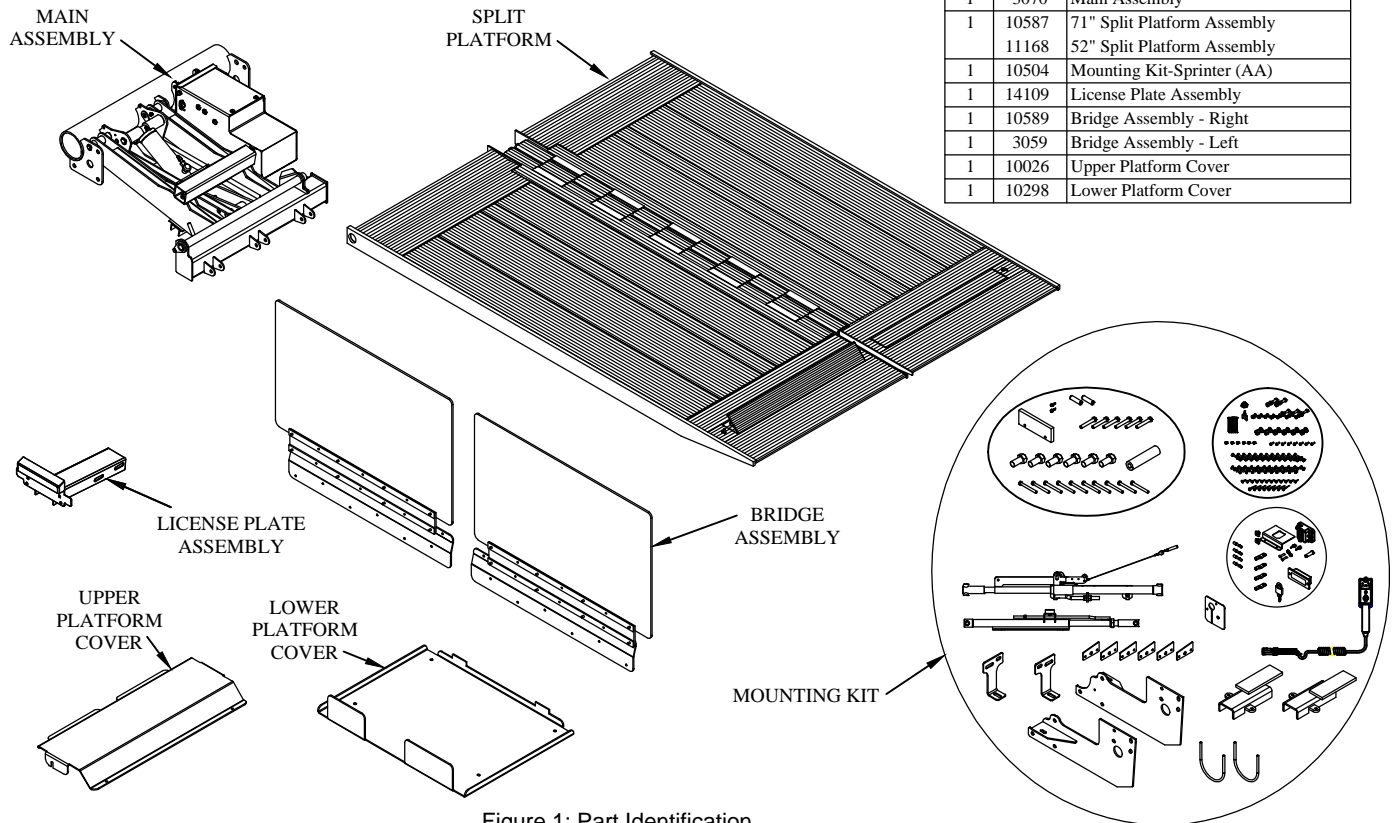

Figure 1: Part Identification.
- 2. Verify** mounting kit, liftgate, and other components (Figure 1 and Table 1).